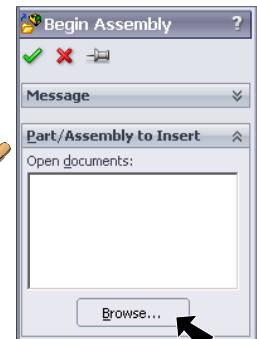

Fig. 41
Step 3. Click **Browse** in the Property Manager **Fig. 41**.